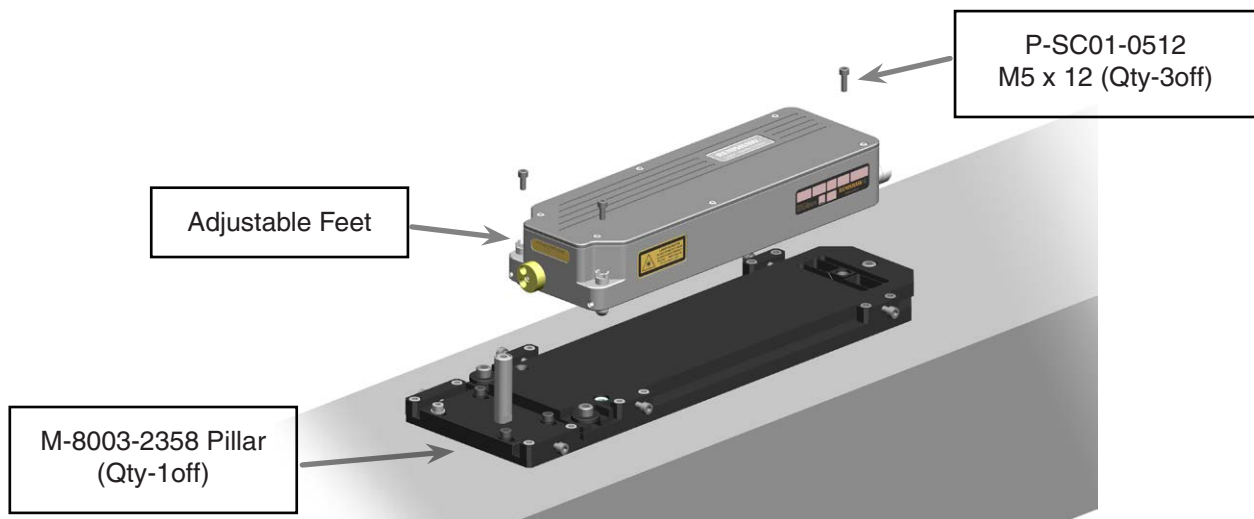

Figure 21 - Fitting the laser to the alignment plate
1. Fit the three adjustable feet to the HS20 laser head, setting them mid-way along their threaded section to allow full adjustment in both directions. as shown in figure 21.
6. Screw the pillar (M-8003-2358) into the position shown in figure 21.